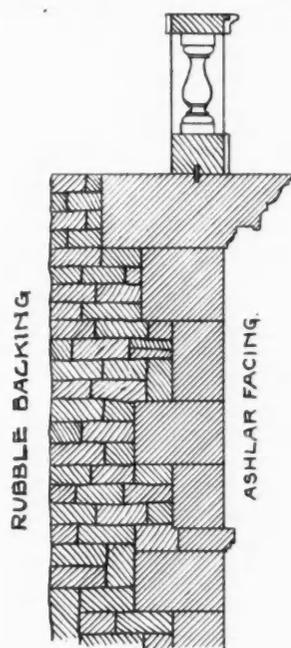

FIG. 1.
**S**TONE is one of the earliest materials used for building purposes, and it is likely to maintain its prominent position so long as it is accessible and not too expensive. A very important consideration is the quality of the stone, whether it is of hard or soft texture, and whether it is porous or almost impervious to damp atmosphere. There are generally two parts in the stone building of walls, viz., "backing" and "facing." Fig. 1. The former is placed behind the latter, and is generally composed of rough stones, chosen by the builder for the body of the work, and built compactly with the best mortar. The facing of the wall, which is placed before the backing, is of the greater importance from an artistic point of view, as it is upon its quality and adaptability for architectural